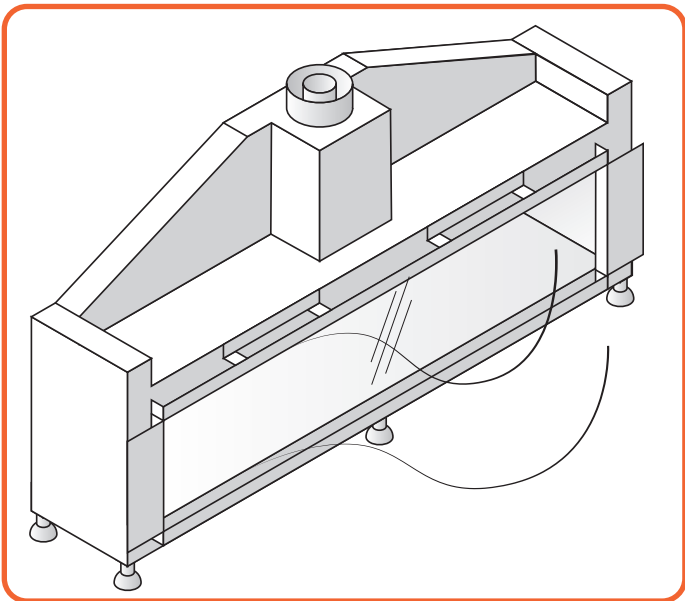

Figure 10.4 - Remove glass cords
- Remove the glass cords. (See **Figure 10.4**)